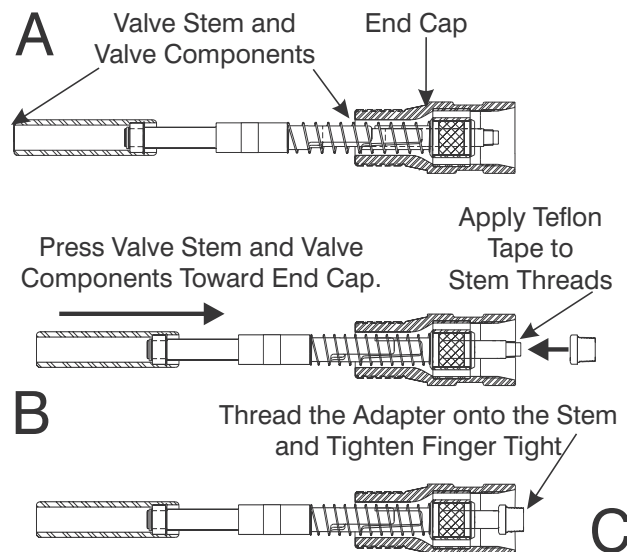

Figure 9-34. Install the Thread Adapter on the Valve Stem.
3. By hand, press the Valve end of the Valve Stem (5) toward the End Cap until the threads on the stem are accessible as shown in Figure 9-34.
5. Thread the Thread Adapter (3) onto the Valve Stem and tighten finger tight. Refer to Figure 9-34.